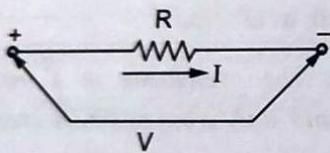

Fig. 0.6.1 Ohm's law
- The Ohm's law gives relationship between the potential difference (V), the current (I) and the resistance (R) of a d.c. circuit.
- Mathematically, $I \propto \frac{V}{R}$ Where I is the current flowing in amperes, the V is the voltage applied and R is the resistance of the conductor, as shown in the Fig. 0.6.1.